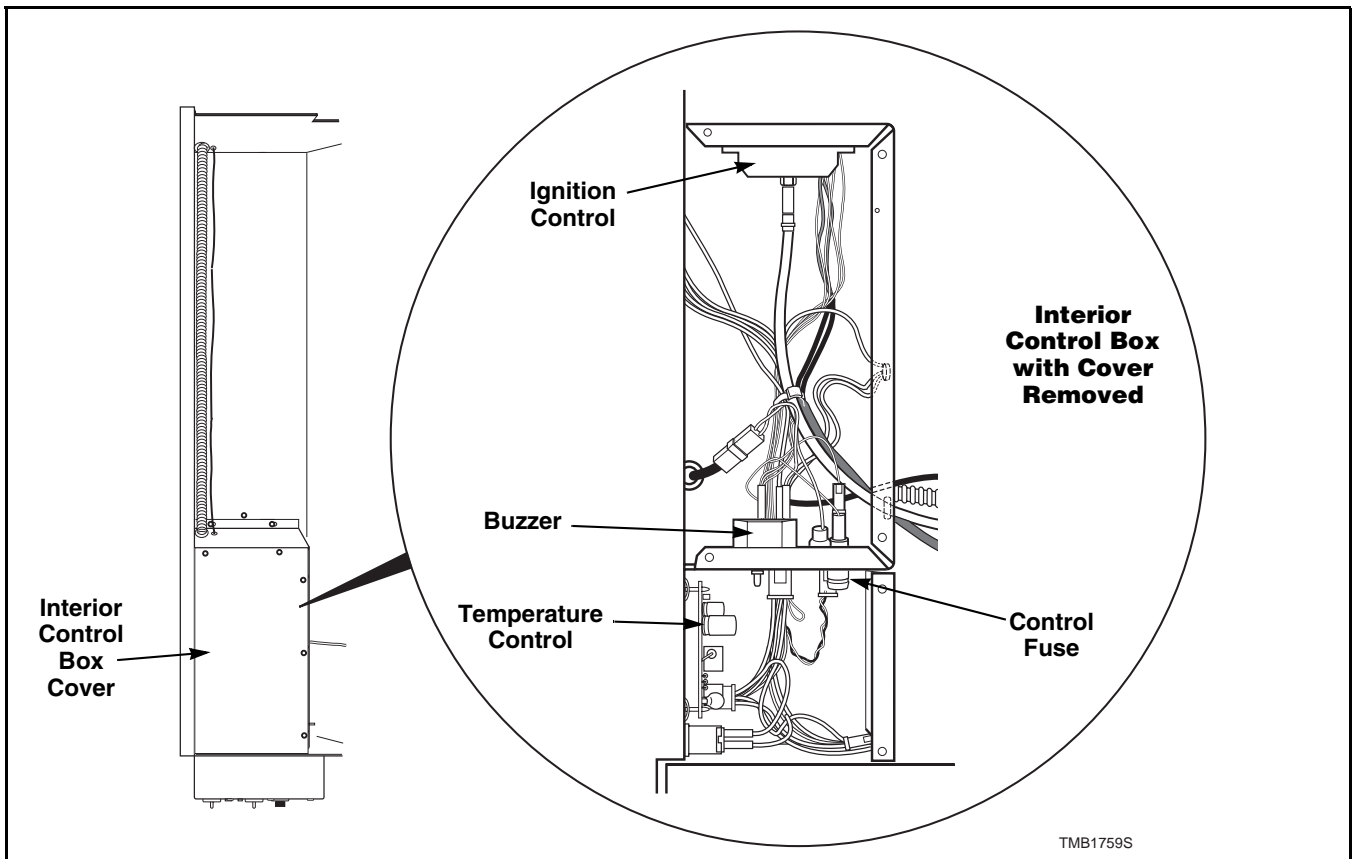

Figure 2
- c. Remove interior control box cover. Refer to *Figure 2*.
Refer to *Figure 2*.